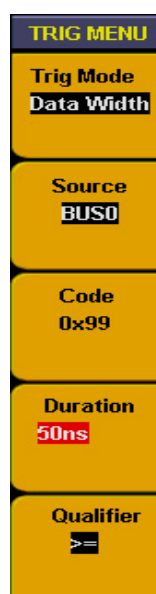

Fig.90: Duration trigger menu
6、**Data width queue trigger**: Make BUS as trigger source and continuous duration in BUS as trigger condition to generate trigger. Duration trigger menu refer to Fig.90